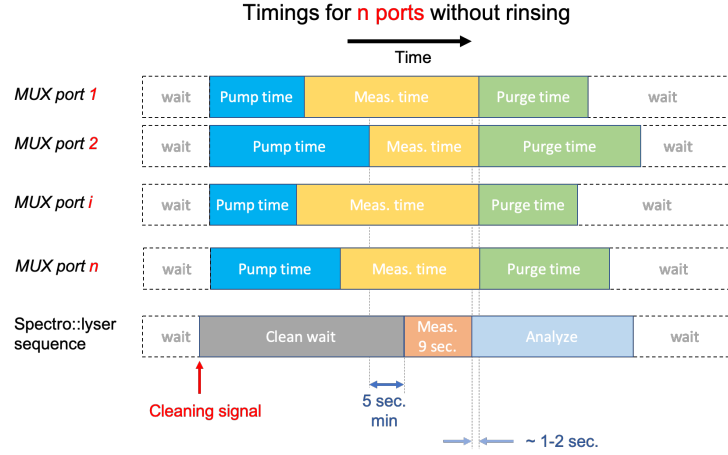

Figure 3.3: Adjusting the *pumping times* and *measurement times* of the MUX to match the sequence of events of the Spectro::lyser
1. In reality, the *pump time* may vary from sampling point to the next as it is preferable to pump the least amount of time per port to save energy and pump tubing. The *pump time* for each port is defined in the *config.txt* file. However, the *clean wait* time corresponds to a parameter from the Spectro::lyser, and the same value applies to all sampling points. As a result, the *clean wait* time **must correspond to the longest *pump time* + 5 seconds** (Figure 3.3).
2. Because it always takes the same amount of time between the *cleaning signal* and the last beep of the Spectro::lyser measurement, and, because the *pump time* may vary from one sampling point to the next, the (on the MUX side) **sum of *pump time* + the MUX *measurement time*** should also be the same and be equal to (on the Spectro::lyser side) **the *clean wait* time + the 9 sec. of measurement time + at least 2 seconds past the last measurement** (Figure 3.3).
As a result, the *pumping time* and the *measurement time* from the MUX must be adjusted (in the *config.txt* file) accordingly for each sampling point as illustrated in Figure 3.3